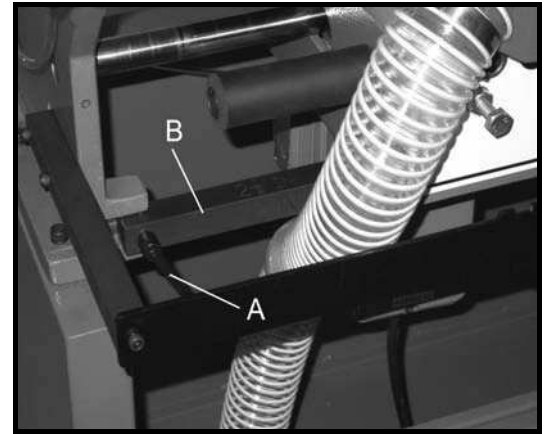

Figure 14
The four-sided template bar, shown in Figure 14, will allow you to create “half-blind” dovetails, where the dovetails are visible on only one side of the joint. It will create dovetails in one of four different “itches” or centerlines. The available pitches are 1”, 1-1/2”, 2” and 2-1/2”. To change the pitch of a dovetail cut, proceed as follows:
3. Loosen and remove the locking handles on each end of the template bar (Figure 14).
You must now also shift the indication template (Figure 14). See "Indication Template."